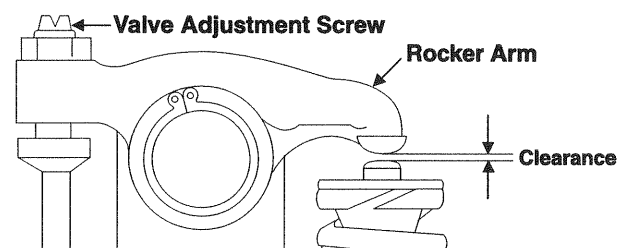

Figure 8: Valve Adjustment
4. Measure the valve clearance for each of the valves (shown as  in Figure 8).
6. Rotate the crankshaft in clockwise direction one full turn to set cylinder No. 4 to top dead center (TDC). Adjust the remaining valves (shown as  in Figure 8).